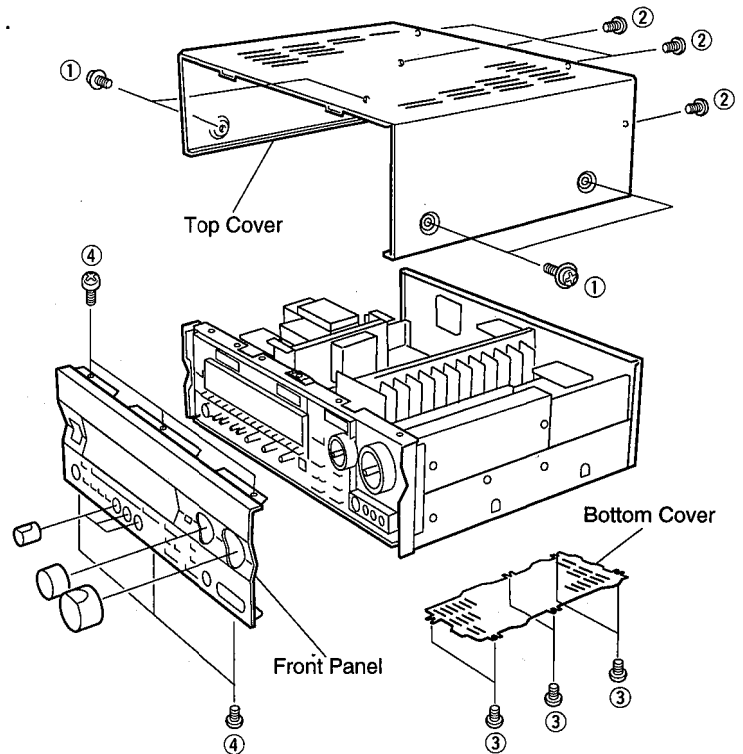

Fig. 1
- ⑪ P. C. B. DSP
- ⑫ P. C. B. OPERATION (2)
- ⑬ P. C. B. OPERATION (6)
- ⑭ P. C. B. INPUT(1)
- ⑮ P. C. B. OPERATION(3)
- ⑯ P. C. B. MAIN (1)
- ⑰ P. C. B. MAIN (4)
- ⑱ P. C. B. MAIN (3)
a. Remove 4 screws (①), and 4 screws (②) in Fig. 1.
a. Remove 6 screws (③) in Fig. 1.
b. Remove 6 screws (④) in Fig. 1.